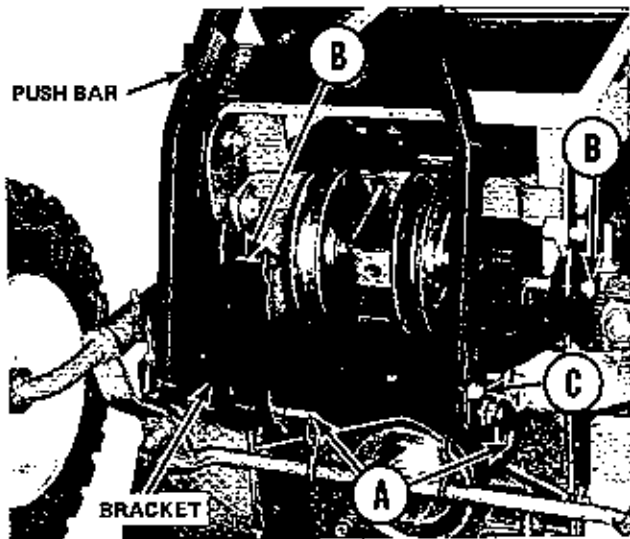

FIGURE 1
1. Install the rear pins (A) in the axle ears first. Then install the front pins (B) at the frame holes. Note that bracket arms straddle the frame sides. The arm bolts may be loosened to position the arms. Secure the pins with the spring clips.
2. Attach the push bar to the bracket with the long pin (C) and two spring clips. (See Figure 1)